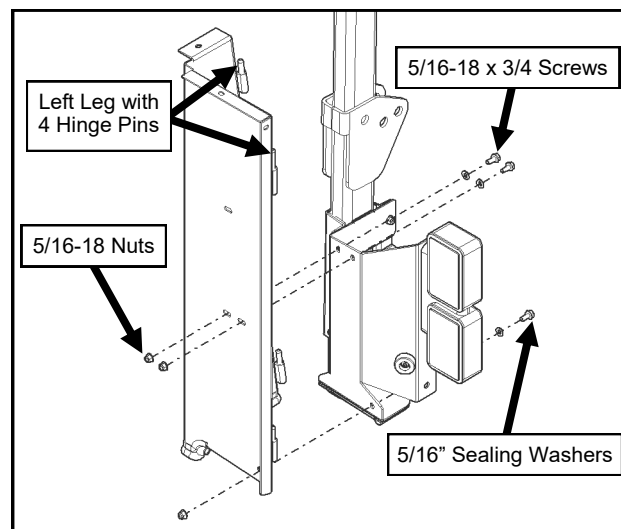

Fig. 3.1 (Loosely Secure Left Rear Leg)
3.1 With a helper, set the left rear leg in place on the rear fender against the ROPS bracket. See figure 3.1. Loosely secure to the ROPS bracket with sealing washers on all the screws.